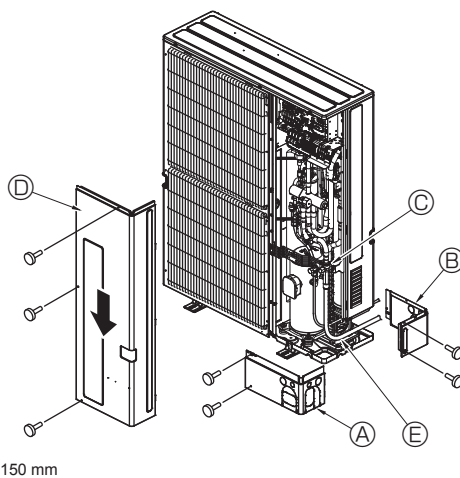

Fig. 4-8
4.5. Refrigerant piping (Fig. 4-8)